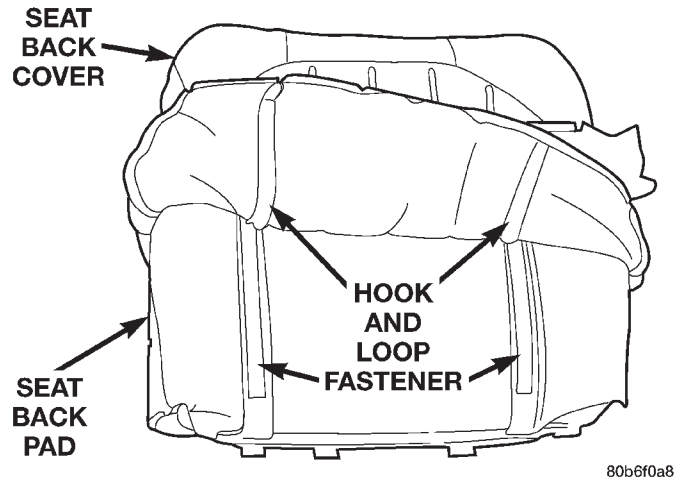

Fig. 7 Seat Back Cover
- (1) Remove head restraint.
- (2) Using a trim stick, carefully pry head restraint release button caps from the top of seat back.
- (3) Remove seat back.
- (4) Disengage J-strap at base of seat back.
- (5) Slide hand between the face of the seat back pad and the cushion cover and carefully separate hook and loop fastener (Fig. 7).
- (6) Roll cover upward and disengage hog rings.
- (7) Roll cover upward to top of seat back.
- (8) Separate cover from seat back.